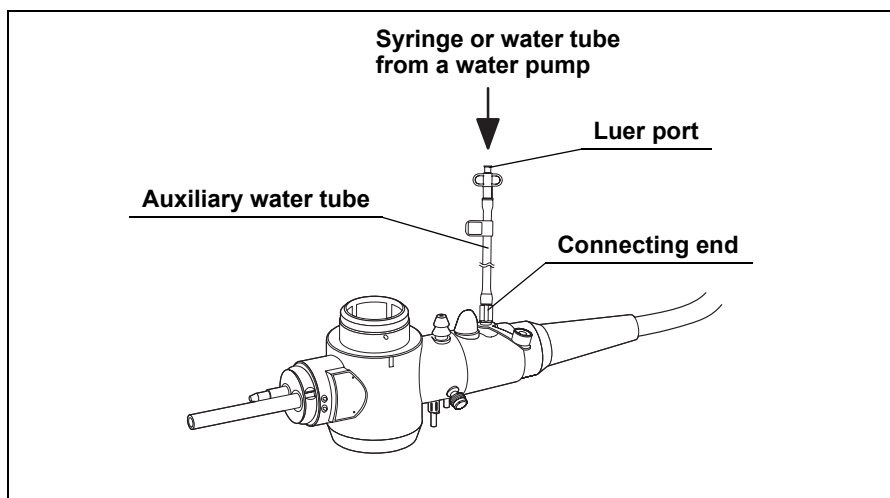

Figure 3.25
1. Attach a syringe containing sterile water or the water tube from a water pump to the luer port of the auxiliary water tube (see Figure 3.25). Feed water and confirm that water is emitted from the auxiliary water channel at the distal end of the insertion tube.